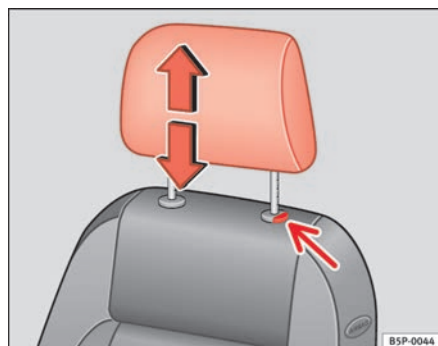

Fig. 68 Adjusting and removing the head restraints
- Press the button ⇒ fig. 68 (arrow).